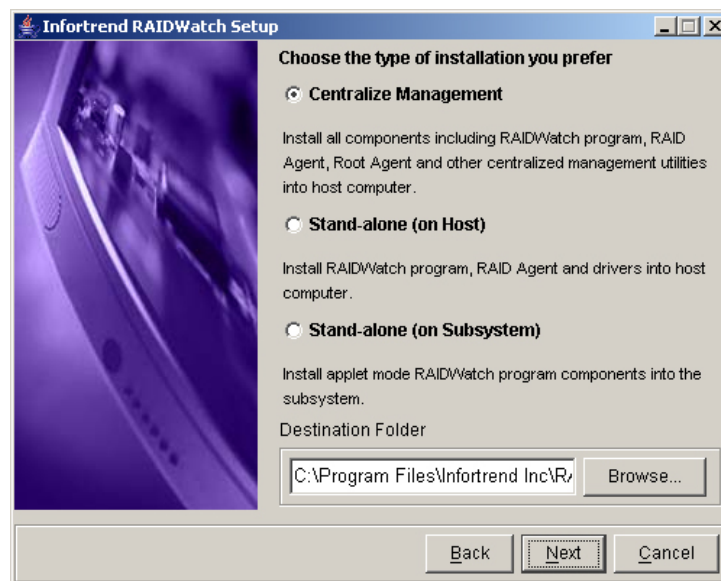

Figure 1-3: Installation Options
RAIDWatch supports local or remote management of Infortrend EonStor subsystems over a LAN/WAN or the Internet using the TCP/IP protocol. RAIDWatch can be highly flexible to access to a RAID subsystem. When "Advanced" installation is chosen during the installation process, three (3) installation schemes are available for you to select using the install shield program. (See *Figure 1-3*) Below sections are the explanations of the three options.